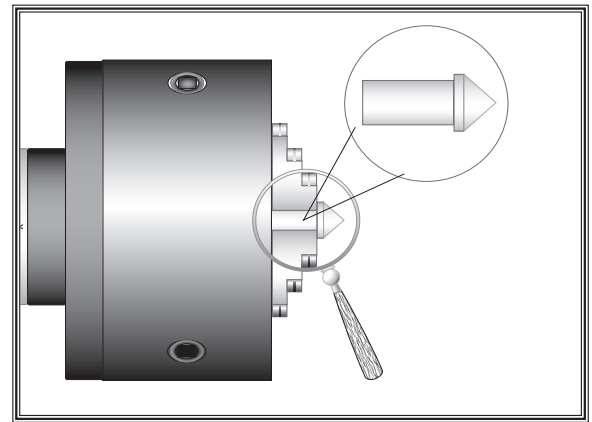

Figure 17. Chuck centering the dead center.
4. Using the other piece of stock, make a dead center by turning a shoulder to make a shank. Flip the piece over in the chuck and turn a 60° point (see **Figure 17**).